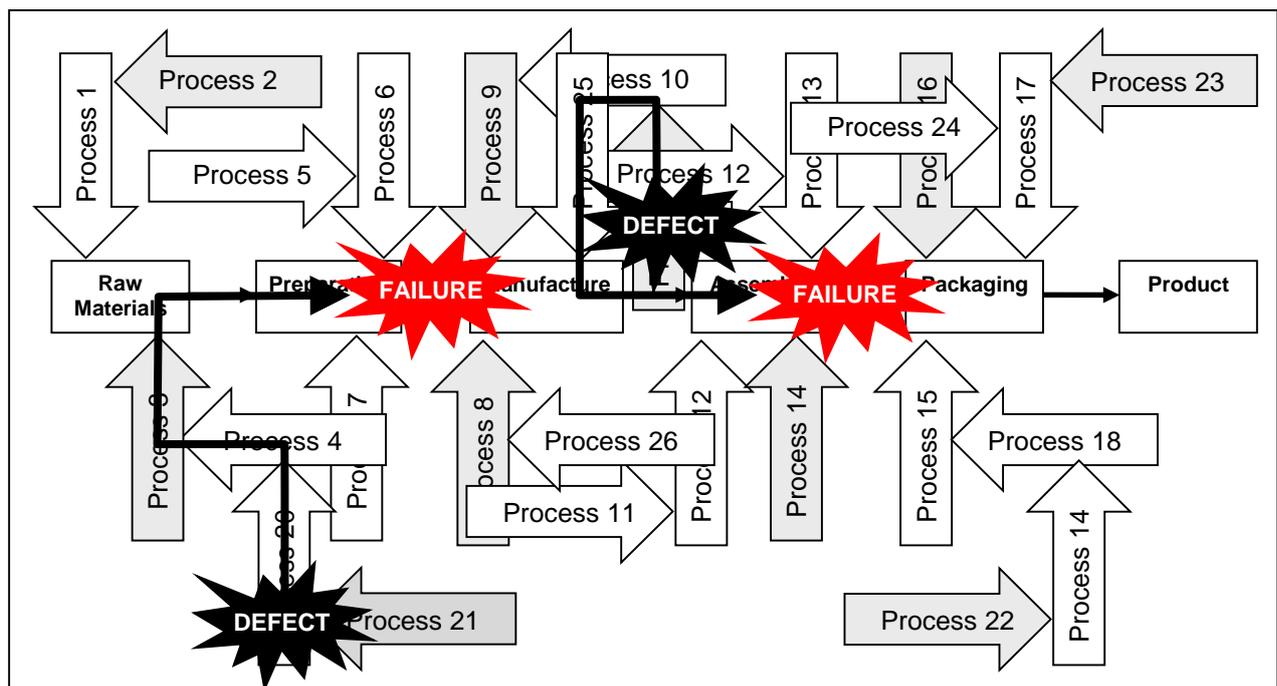

Figure 1 – Technological Inheritance of Poor Quality Causes Operational Failures
Technological inheritance from manufacturers influence 40% of operating plant failures.1 Coupled with the 35% of failures from project design errors,2 and 75% of all your equipment failures are explained by what happened long in the past. Technological inheritance (TI) is the transfer of equipment component quality characteristics from a manufacturing step to a future process step. A defect in an item or work done in a prior step that causes trouble in a later step is termed an “inherited” defect. It is an error or fault that travels along with the item or job and becomes a future problem in the same process or in another process. Every defect in design or manufacturing has the potential to impact numerous future operational steps. One defect may only become a minor irritation, while another could turn into a severe business-destroying or life-destroying disaster. Figure 1 shows what TI does to a business—a defect created in a prior process later leads to a serious failure in another process.